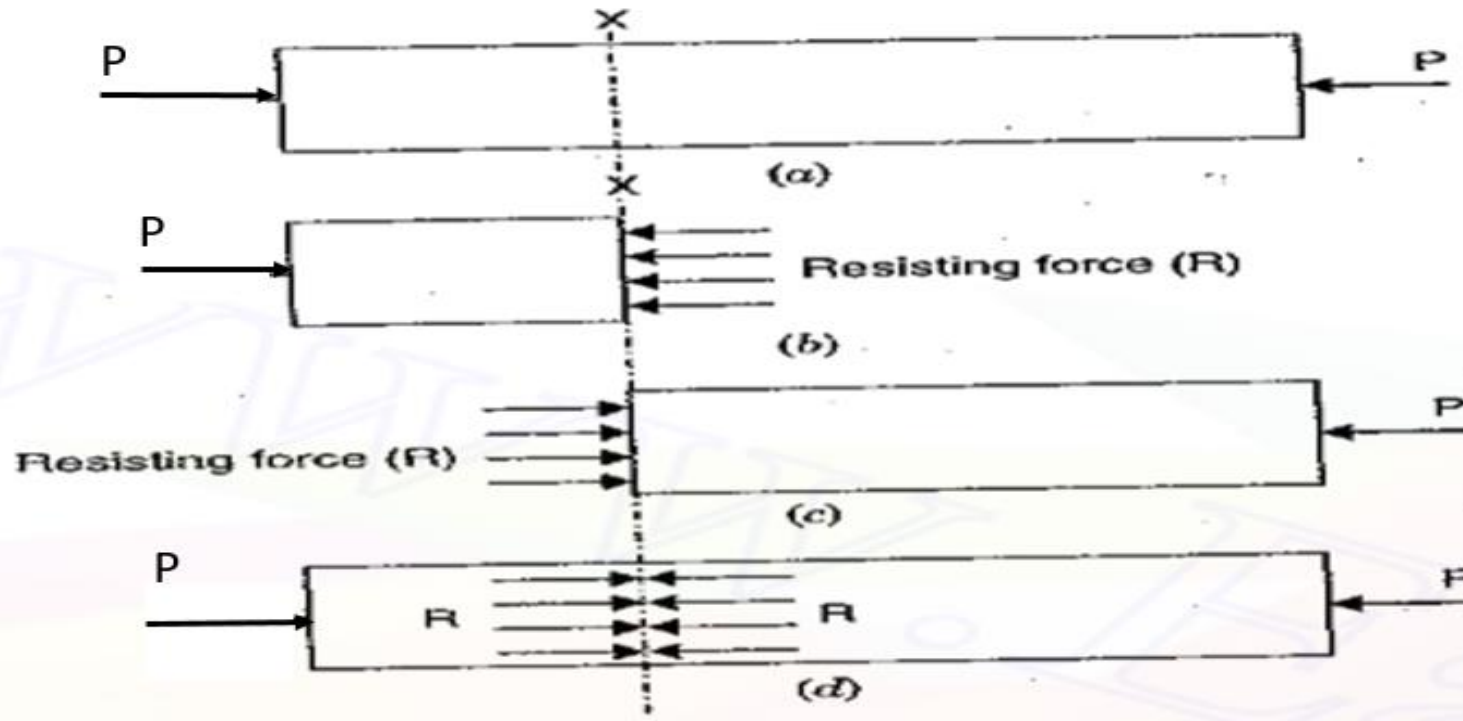

Fig. 1.2
**1.4.2. Compressive Stress.** The stress induced in a body, when subjected to two equal and opposite pushes as shown in Fig. 1.2 (a) as a result of which there is a decrease in length of the body, is known as compressive stress. And the ratio of decrease in length to the original length is known as *compressive strain*. The compressive stress acts normal to the area and it pushes on the area.